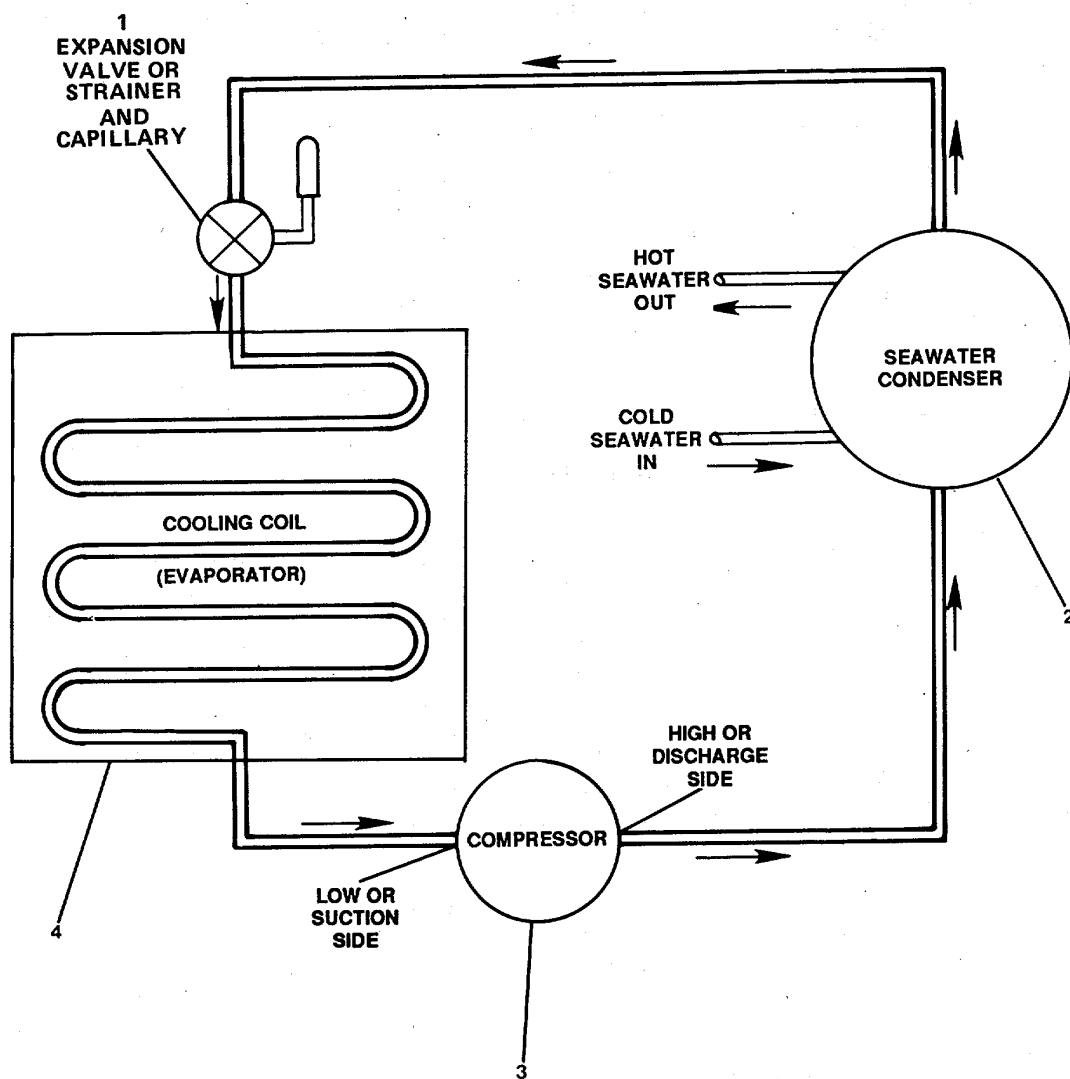

Figure 1-3. Interface of Major Components in the Cooling (Air Conditioner) Cycle .
- 1-16. Cooling Cycle and Major Components.** The major components in an air conditioning cooling cycle are the cooling coil, the compressor, the condenser, and the expansion valve (or a capillary tube assembly in self-contained units). FIGURE 1-3 shows the interface of these components in the basic cooling cycle. FIGURE 1-3 is a simplified typical arrangement showing major components only.
- (1) As cold refrigerant liquid moves through the cooling coil (4, FIGURE 1-3), it picks up heat from the air passing over the surface of the coil. As it picks up heat, the refrigerant changes to a vapor.
- (2) The heated refrigerant vapor is then drawn into the compressor (3) where it is put under high pressure. This causes the temperature of the vapor to increase.
- 3) Next, the high pressure, high temperature vapor passes to a seawater cooled condenser (2) where heat is removed from the refrigerant. As the condenser removes heat, the vapor changes to a liquid but is still under pressure.
- (4) The liquid refrigerant then flows to the expansion valve (1) (or capillary assembly). As the liquid flows through the valve (or capillary), pressure is reduced instantaneously. This action lowers the temperature of the liquid still further so that it is now ready to pick up more heat.
- (5) The cold, low pressure liquid refrigerant then flows into the cooling coil (4). The pressure in the cooling coil is low enough to allow the refrigerant to vaporize as it again absorbs heat from the air passing over the coil surface. The cycle begins to repeat itself as the heated refrigerant vapor is again drawn into the compressor (3).